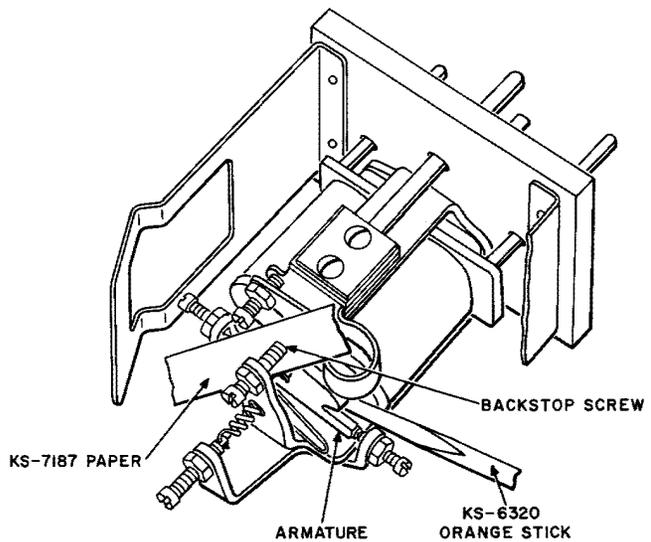

Fig. 51—Method of Cleaning Backstops on 207-, 213-, and 268-Type Relays
7.10 Backstops on 207-, 213-, and 268-Type Relays: To clean the backstop, insert a piece of KS-7187 paper between the armature and backstop screw, and while holding the armature against the backstop screw, withdraw the paper (see Fig. 51). Repeat this operation until the paper shows no evidence of dirt when it is withdrawn.